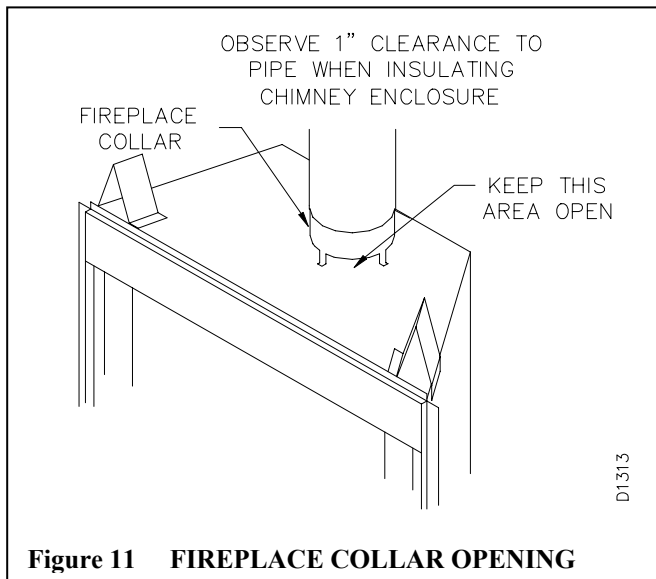

Figure 11 FIREPLACE COLLAR OPENING
5. Do not insulate on top of the firebox. The opening in the collar around the chimney at the top of the firebox must not be obstructed (see figure 11).